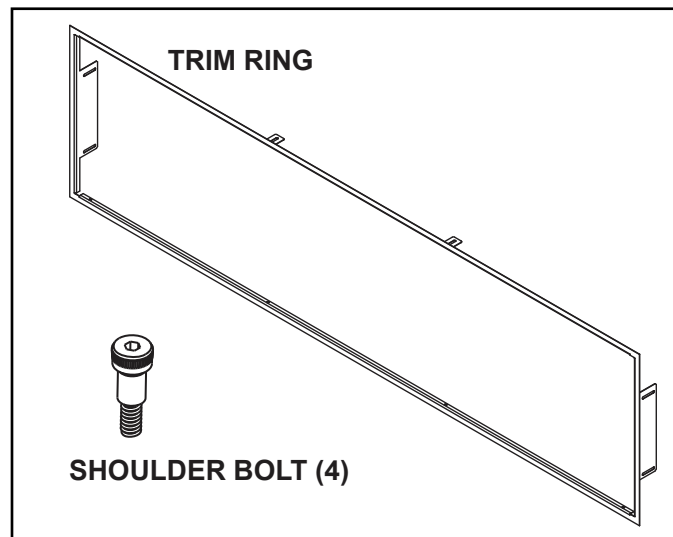

Figure 3. Shoulder Bolt & Trim Ring
2. Remove other components from package. Components included will depend on the front being installed. See Figure 3.